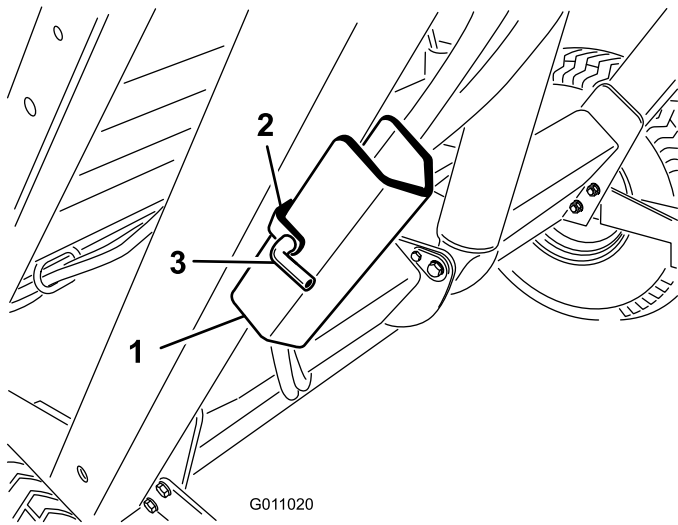

Figure 23
2. Remove the hair pin cotter and pin securing the safety support to the storage bracket on the sweeper frame (Figure 23). Remove the safety support.